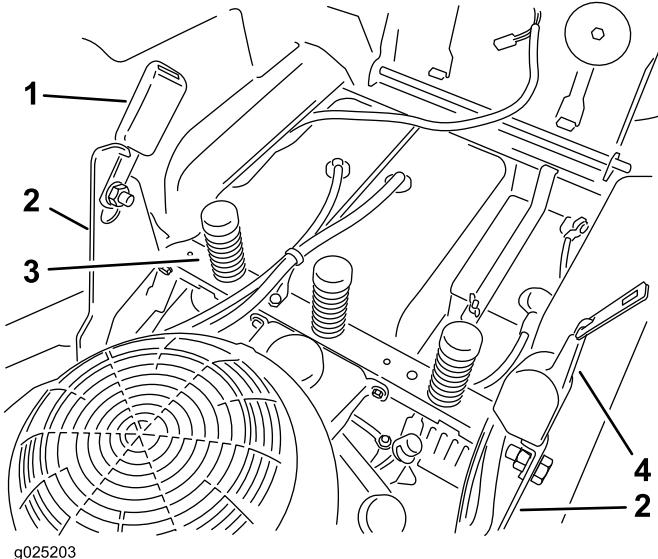

**Figure 1**
2. Unplug the harness connector from the seat switch located under the seat (Figure 1).
- Using the connector previously not used in the harness, plug the connector into the seat switch located under the seat (Figure 1).